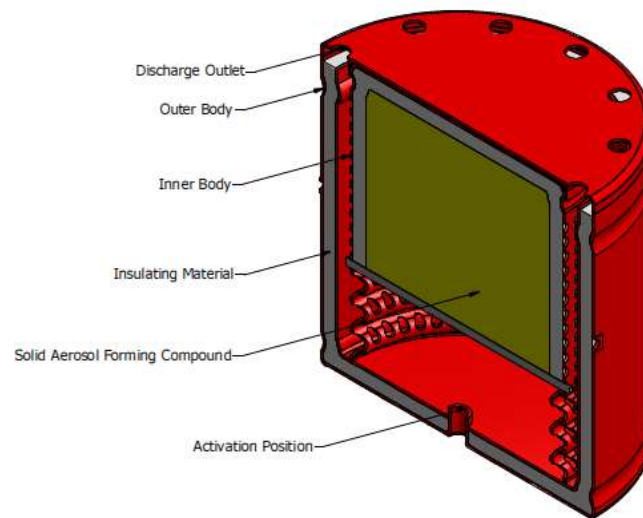
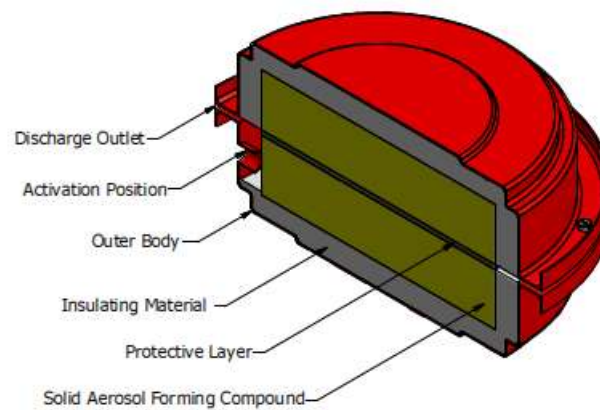

Figure 3. Cross-section of DSPA 8-1/8-1-60.
Figure 4. Cross-section of DSPA 11-6. (Comparable to DSPA 11-5)
- ❖ An electrical activation device “screw-in type” shall be capable of operating via an electrical input and arranged to activate the aerosol-forming compound at this position (See Figure 3 and Figure 4.). This applies to DSPA generator types 11-5, 11-6, 8-1, 8-1-60 and 17-1.